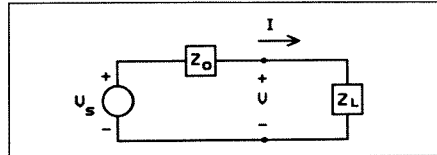

Figure 1. Circuit for the definition of the incident current and voltage.
The terms incident and reflected, while they conjure up pictures in our minds, need to be defined in terms of circuit theory. Following the work of Carson (1), the circuit of Figure 1 provides the definitions for the incident voltage and current. The incident current, I_i , is defined as the current through the load when it is conjugately matched to the source. From the circuit in Figure 1, this gives,